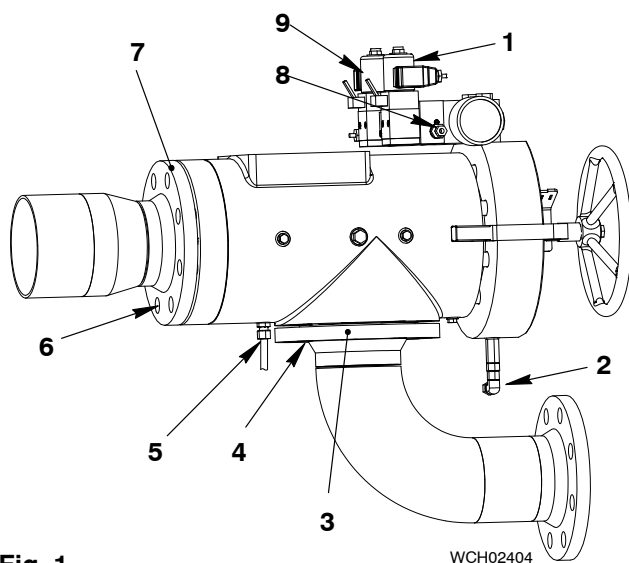

Fig. 1
- 4) Disconnect the electrical connections from the pressure transmitter (8, Fig. 1) and the solenoid valves (1, 9).
- 5) Remove the pipe (5).
- 6) Remove the pipe (2).
- 7) Remove the eight screws (6) from the flange (7).
- 8) Remove the eight screws (4) from the flange (3).
- 10) Do a check of the two gaskets that are installed on the flanges (3) and (7). If the gaskets are unserviceable, replace them.